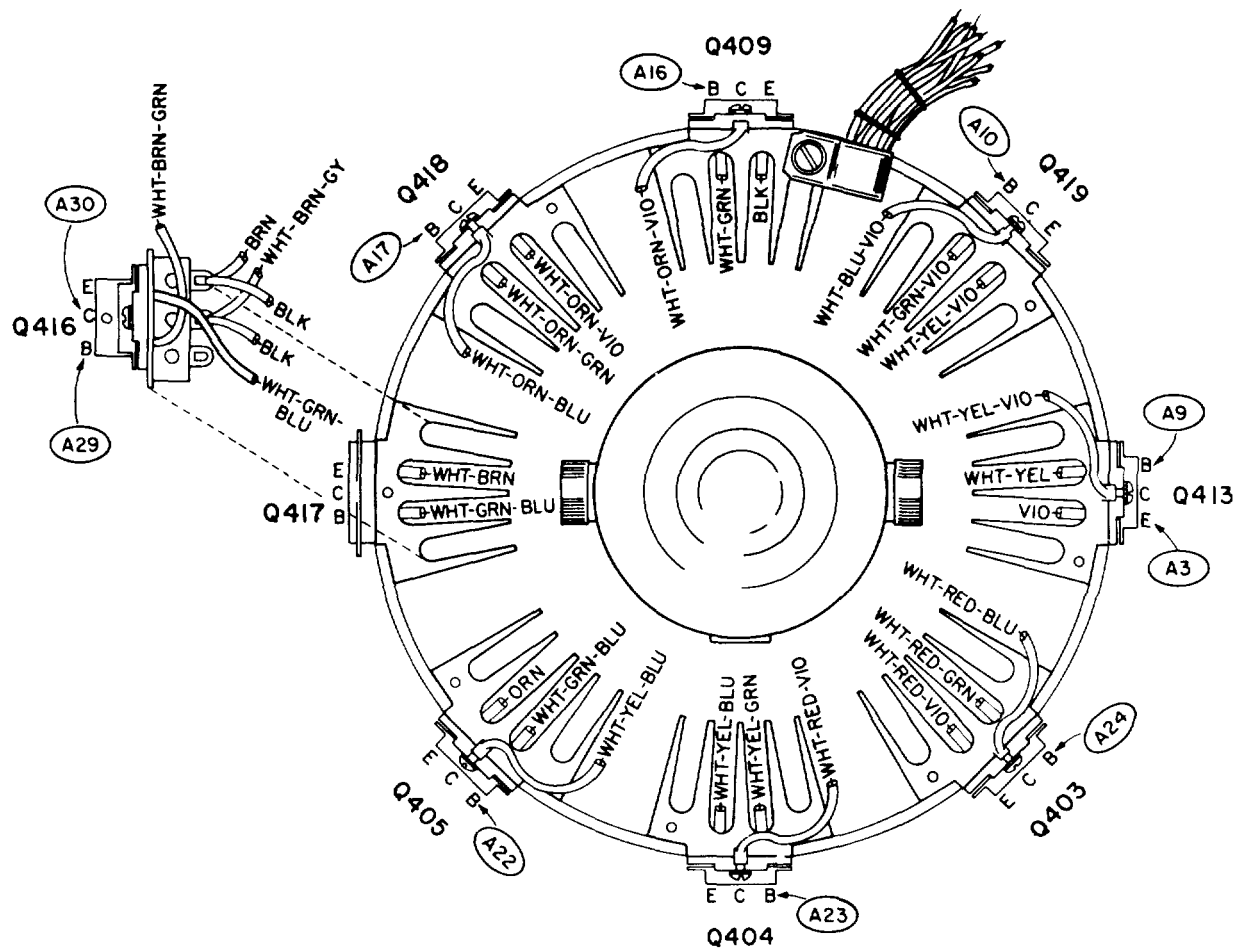

Figure 4-20. Fan Shroud and Power Transistor Assembly, Location of Test Points and Connections
- (2) Remove the eight fan shroud screws and open the motor supporting strap.
- (3) Slip the entire fan, shroud, and motor out the rear of the chassis, noting cable dress and shroud position. See figures 4-20 and 5-10. Twist slightly to give transistors clearance.
- (4) Remove and inspect the brushes.